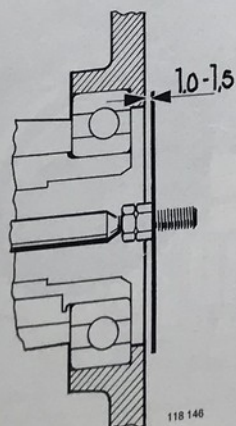

Fig. 92-22. Adjusting the clearance
4. Screw the thrust washer on the rod. The washer should be placed so that there is a clearance of 1–1.5 mm (0.04–0.06") between the washer and the gear housing cover. See Fig. 92-22.